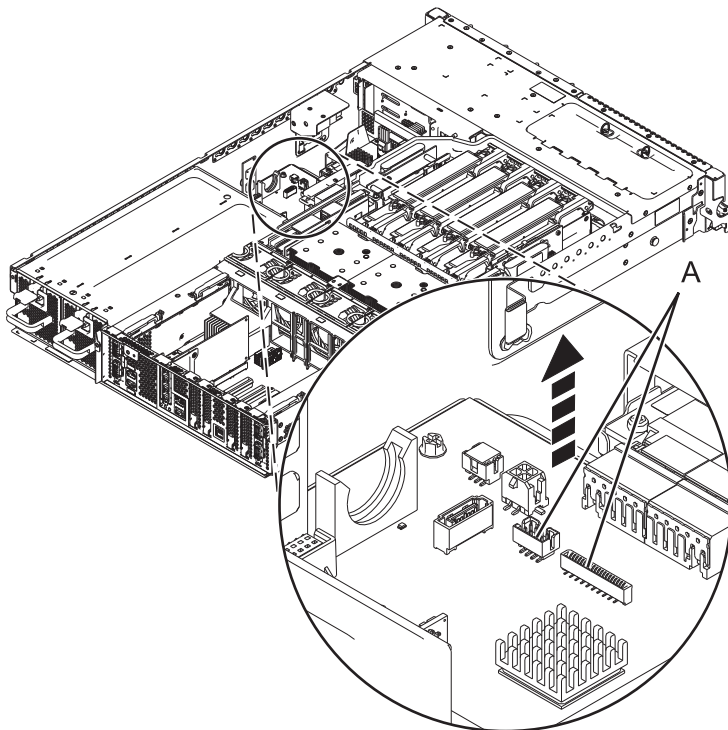

Figure 1. Disconnecting the operator panel cable
- a. Disconnect the operator panel cable (A). See Figure 1.